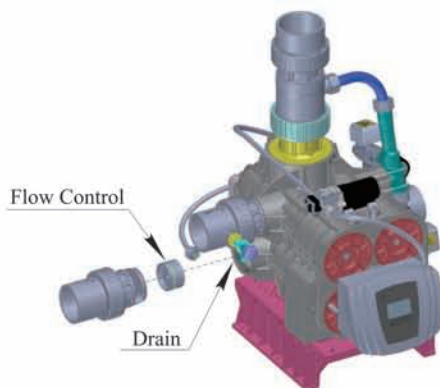

Figure 1-4
③ Install drain pipeline (If no special request, the injector is 7802)
c. Use the manual handle as Figure 1-4 shows to open the drain connector, take out the drain line flow control, and change it to the suitable one. (Please refer the hole of P25)